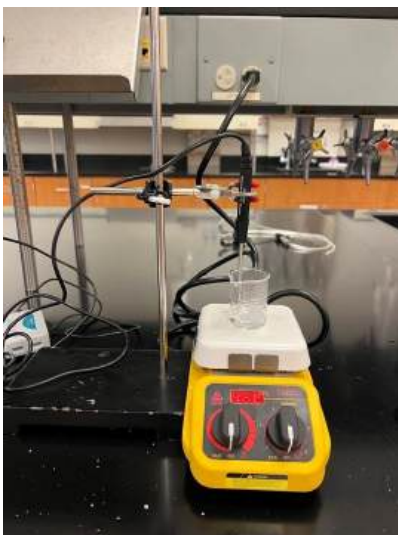

Figure 4: Water boiling point apparatus
2. Using a 50 mL beaker, obtain 50 mL of hot **DI water** from the hot water bath. Using your 10 mL graduated cylinder, add 17.5 mL of the hot DI water to another 50 mL beaker along with a magnetic stir bar. **This water must be DI water and cannot come from the sinks.** Place the beaker on top of the heating plate and set up the rest of the apparatus as shown in Figure 4 below.